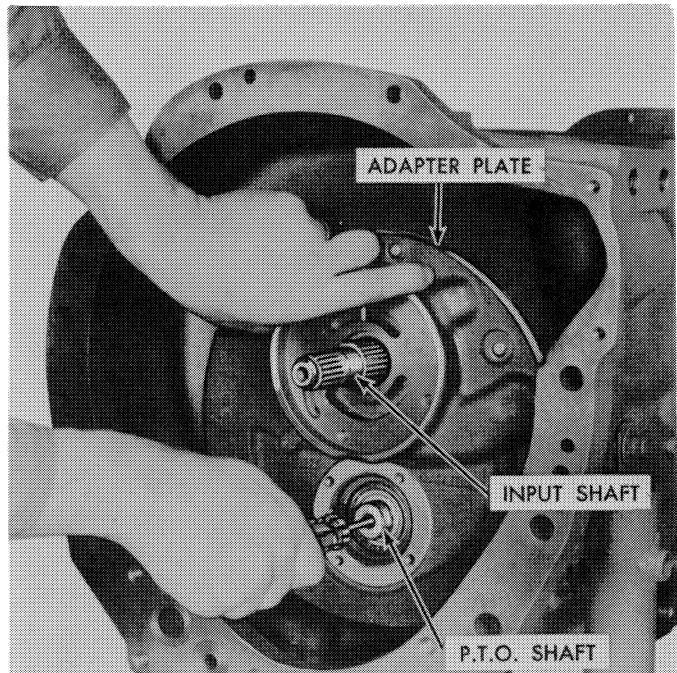

Figure 67
7. Install the two front input shaft seals and center them, using Vaseline. Install the pump adapter plate and gasket as shown in Figure 67, and secure with six bolts and one nut. Tighten the bolts to 25 – 30 ft. lbs. torque.
9. Install the pump adapter plate and gasket, holding the P.T.O. shaft up, as shown in Figure 67, and secure with six bolts and one nut. Tighten to 25–30 ft. lbs. torque.
1. Install the front adapter plate (without the input shaft) and gasket on the case. Center the P.T.O. shaft with a suitable tool, as shown in Figure 67. Tighten the adapter plate mounting bolts and nut to 25–30 ft. lbs. torque.